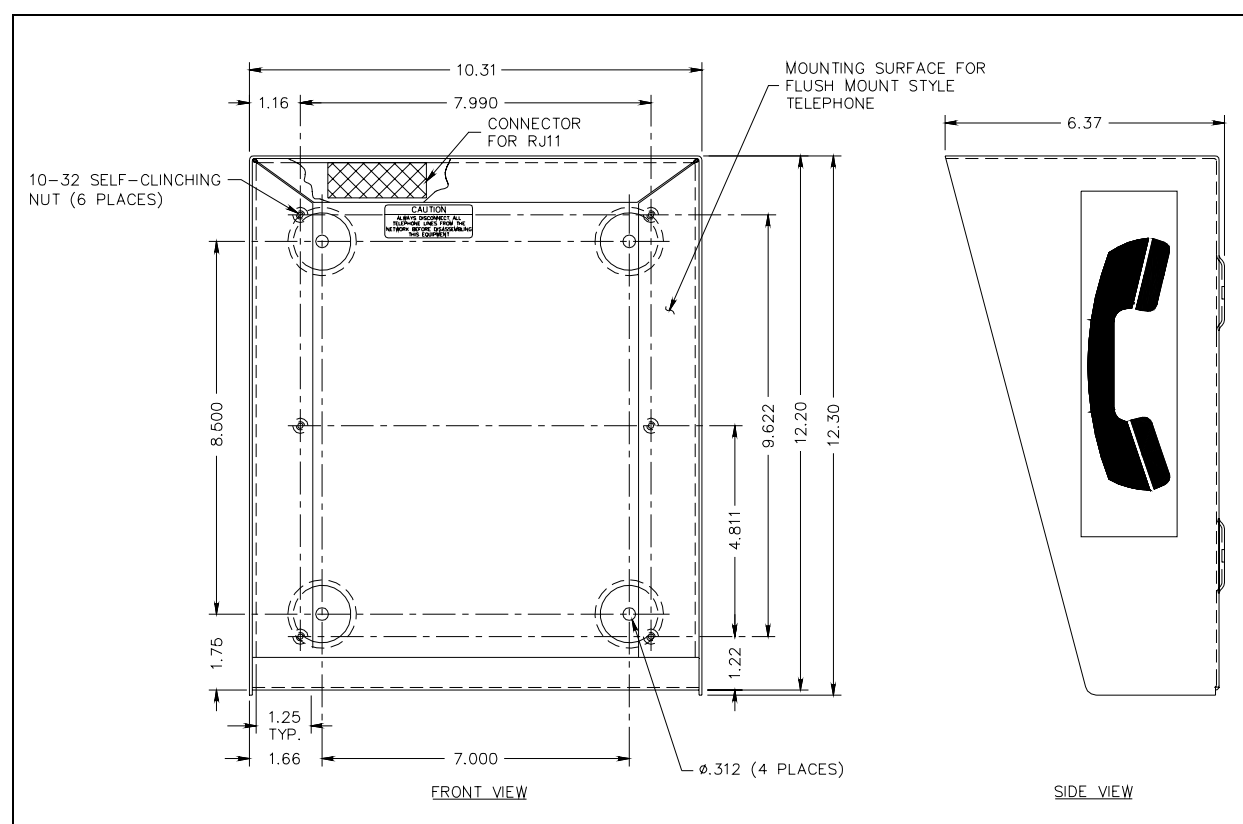

Figure 1. Model 236-001 Series Surface-Mount Enclosure Outline
1. Mount the enclosure on a flat wall surface using the four 5/16-inch (0.312) diameter mounting holes as shown in Figure 1. Mounting hardware is not provided.
4. Remove the backing from the other side of the adhesive pad, and affix the telephone jack to the top of enclosure, positioning the RJ11 connector toward the inside center of the enclosure. See Figure 1.
6. Secure the CAUTION label to the rear surface of the enclosure, in proximity of the telephone jack. Refer to Figure 1 for recommended location.
9. Secure a telephone handset symbol label to the right side and to the left side of the enclosure's exterior. See Figure 1.